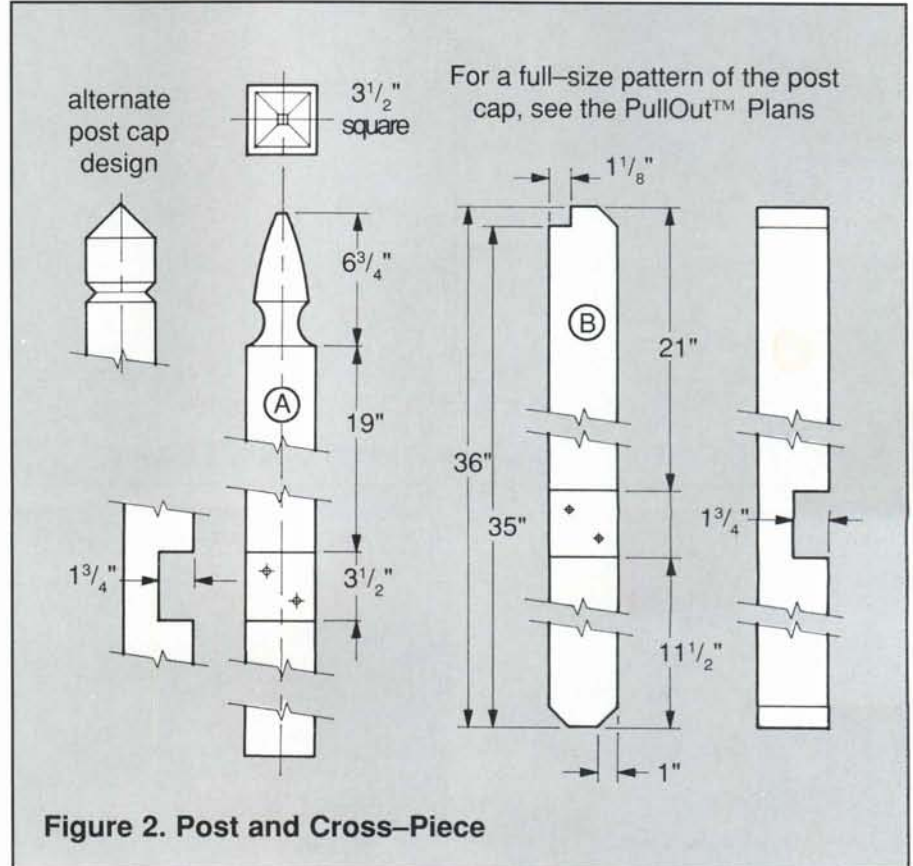

Figure 2. Post and Cross-Piece
With the dado blade still in the saw, cut a 1" X 1-1/8" rabbet in the cross-piece (B) as shown in Figure 2. Then saw a 3-1/2" wide, 1-3/4" deep dado for the cross-lap joint with the post. Make a corresponding dado in the post for a snug fit with the cross-piece, and you're ready to put it all together.